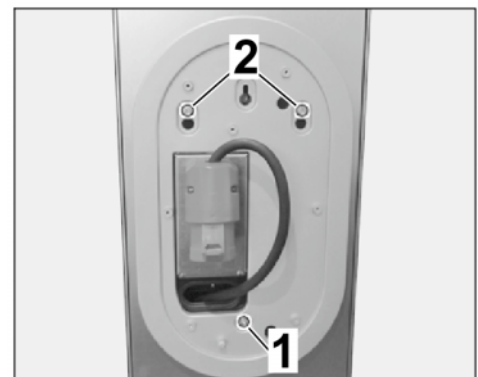

Figure 23
5.1.2 Screw in cheese head bolt at the bottom ⇒ *Figure 23 -1-* and tighten cheese head bolts at the top and bottom ⇒ *Figure 23 -2-*.